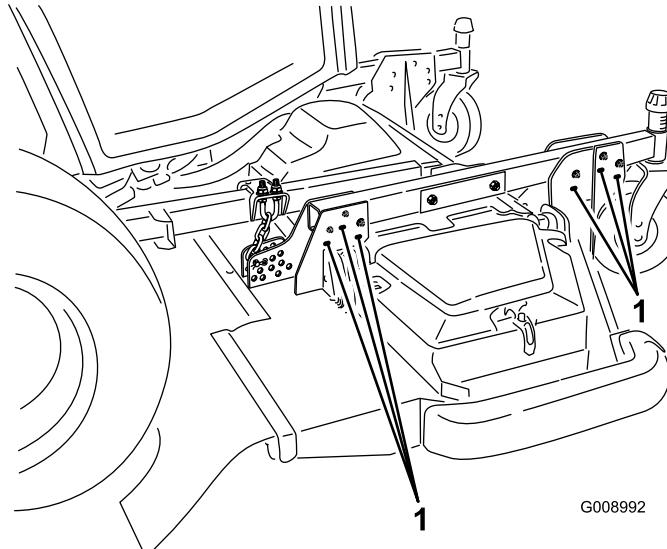

Figure 26
7. To attain the 5 to 6 inch (102 to 153 mm) height of cut settings, remove the mounting bolts securing the deck hanger brackets to the height of cut castor arms and remount the deck hanger brackets to the height of cut castor arms using the lower set of holes (Figure 26).